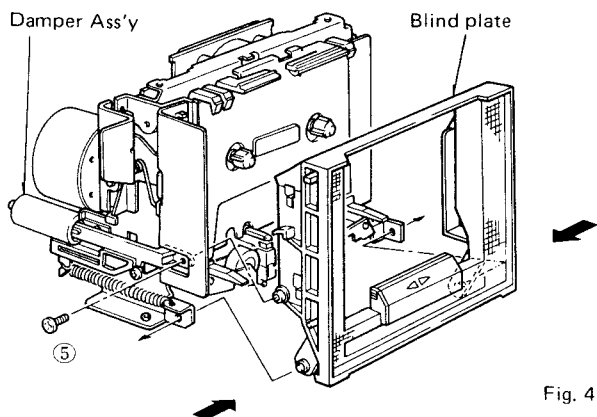

Fig. 4
- Remove screw (⑤) in fig. 4. (Remove after aligning the damper assembly arm with the notch in the blind plate.)